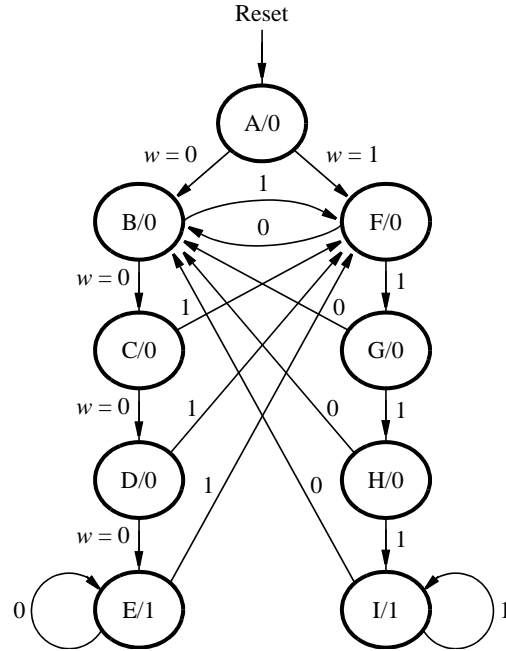

Figure 2. A state diagram for the FSM.
A state diagram for this FSM is shown in Figure 2. For this part you are to manually derive an FSM circuit that implements this state diagram, including the logic expressions that feed each of the state flip-flops. To implement the FSM use nine state flip-flops called y_8, \dots, y_0 and the one-hot state assignment given in Table 1.
For this part you are to write another style of VHDL code for the FSM in Figure 2. In this version of the code you should not manually derive the logic expressions needed for each state flip-flop. Instead, describe the state table for the FSM by using a VHDL CASE statement in a PROCESS block, and use another PROCESS block to instantiate the state flip-flops. You can use a third PROCESS block or simple assignment statements to specify the output *z*.
4. To examine the circuit produced by Quartus II open the RTL Viewer tool. Double-click on the box shown in the circuit that represents the finite state machine, and determine whether the state diagram that it shows properly corresponds to the one in Figure 2. To see the state codes used for your FSM, open the **Compilation Report**, select the **Analysis and Synthesis** section of the report, and click on **State Machines**.